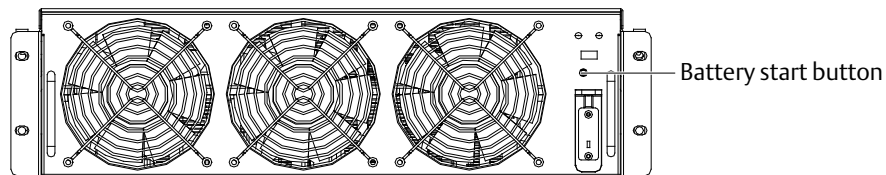

Figure 5-2 Location of battery start button
2. Press the battery start button (see Figure 5-2) on the front panel of the power module.